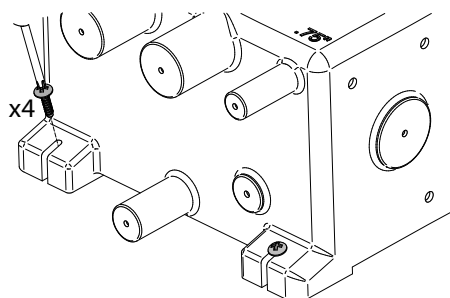
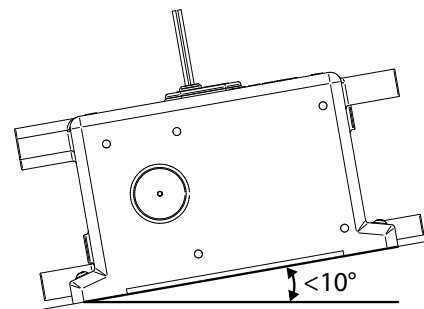

Figure 5 Securing The Tank
Figure 6 Maximum Possible Angle of Installation
- Fig. 5 Securing the Tank
- Fig. 6 Maximum Possible Angle of Installation
**Step 2:** The tank **must be** secured using 4 appropriate screws, through the feet of the tank as shown in Figure 5. **NOTE:** The angle of the tank **must not** exceed 10° (Figure 6). **NOTE: Do not screw directly to the hull – MUST** be mounted on a bulkhead or an additional board.